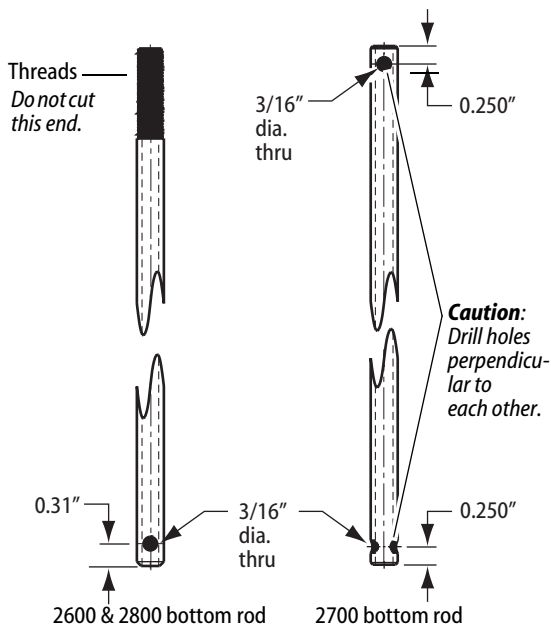

Figure 2 — Drilling the longer bottom rod
- 2 Drill a 0.187 (3/16) inch hole, 0.31 inch from the end as shown in Figure 2.
- 2 Drill a 0.187 (3/16) inch hole, 0.25 inch from the end as shown in Figure 2.
Caution: Make sure to drill holes perpendicular to each other. See Figure 2.